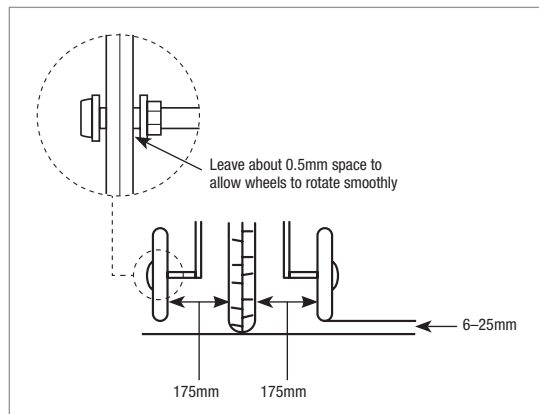

Figure 1
4. Check to see that there is no more than 25mm of clearance between each wheel and the ground when the bicycle is held upright at 90°, and that the training wheels extend a minimum of 175mm from the center of the bicycle’s rear wheel (see Fig. 1).